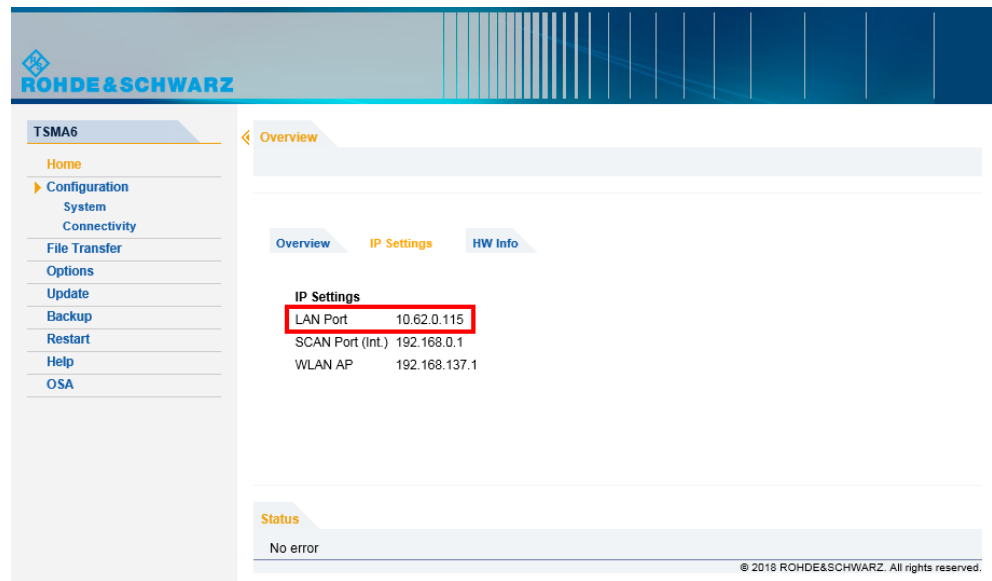

Figure 11-4: Web GUI - Overview > IP Settings
See Figure 11-4.
1. Use the IP address displayed in the R&S TSM6B web GUI (see Figure 11-4).